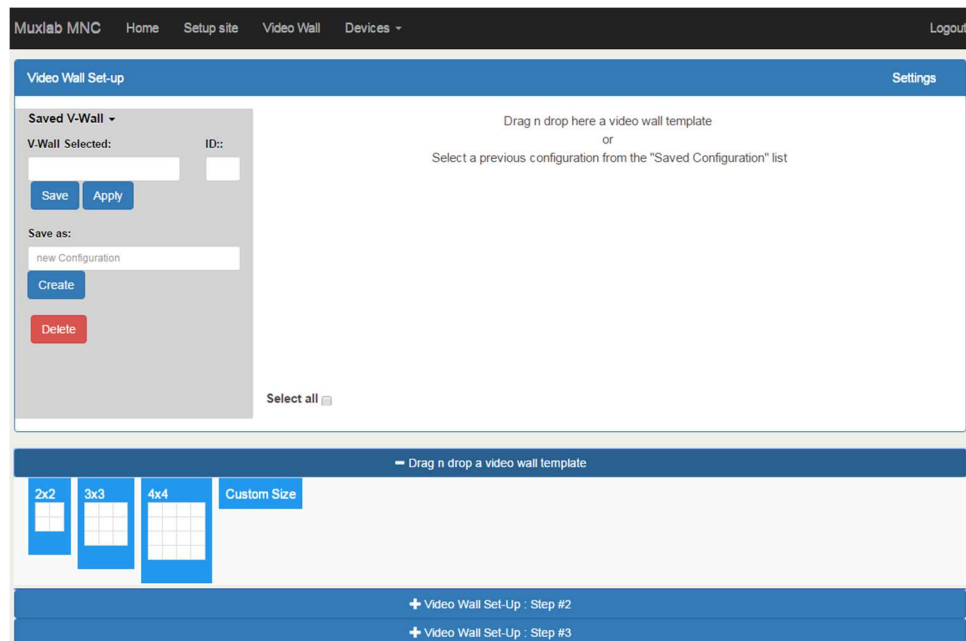

Figure 98: Video Wall Tab
1. The user clicks on **+Video Wall Set-Up: Step #1**, which expands to provide the user with video wall size options (Figure 98).